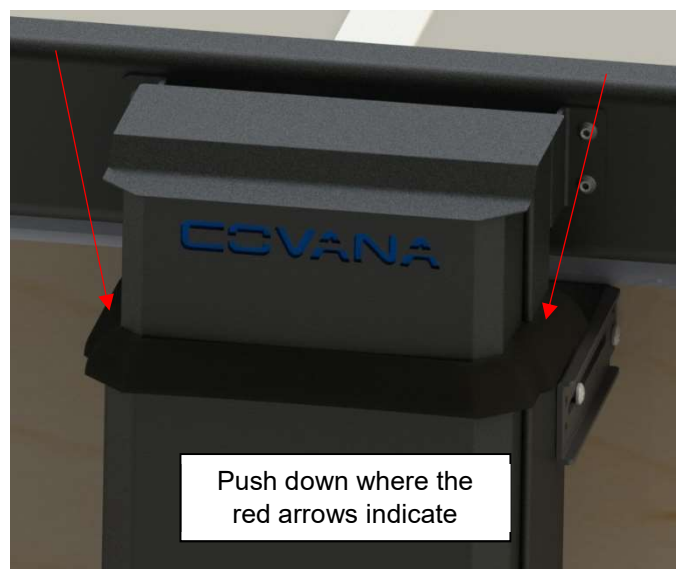

Figure 106
- 24) For all four posts, slide the all-weather seals down. Ensure they are properly seated on the outer sleeves' base. Push down on the seal as shown (Figure 106)